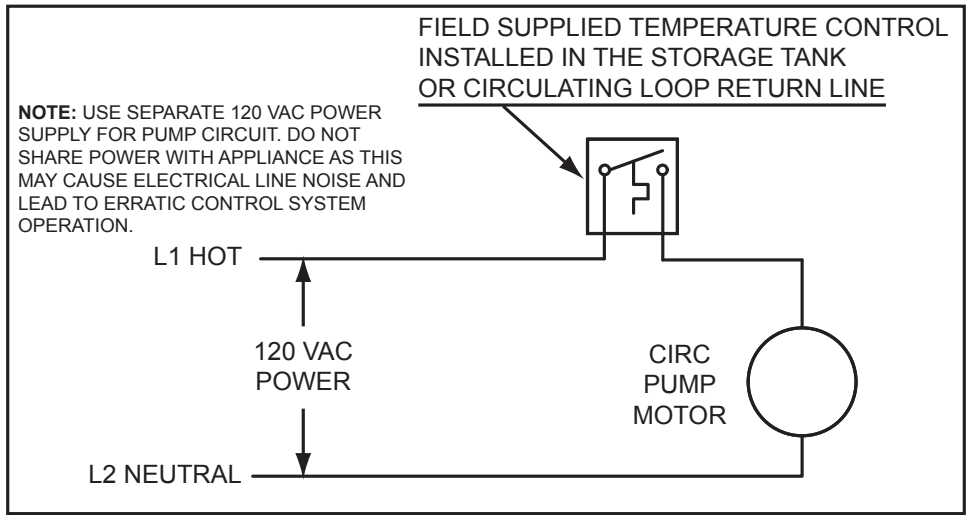

Figure 42. Circulating Pump Wiring Diagram Storage Tank or Building Recirculation
6. If a pump is being installed between a water heater and storage tank or on a building recirculation loop wire according to *Figure 42* (page 65).
6. If a pump is being installed between a water heater and storage tank or on a building recirculation loop wire according to **Figure 42** (page 65).